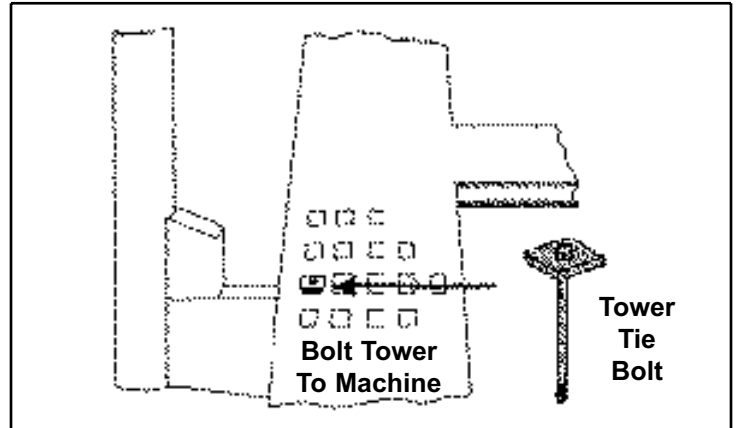

Figure 1
2. Secure tower to mainframe using a tower tie bolt. (See Figure 1.)